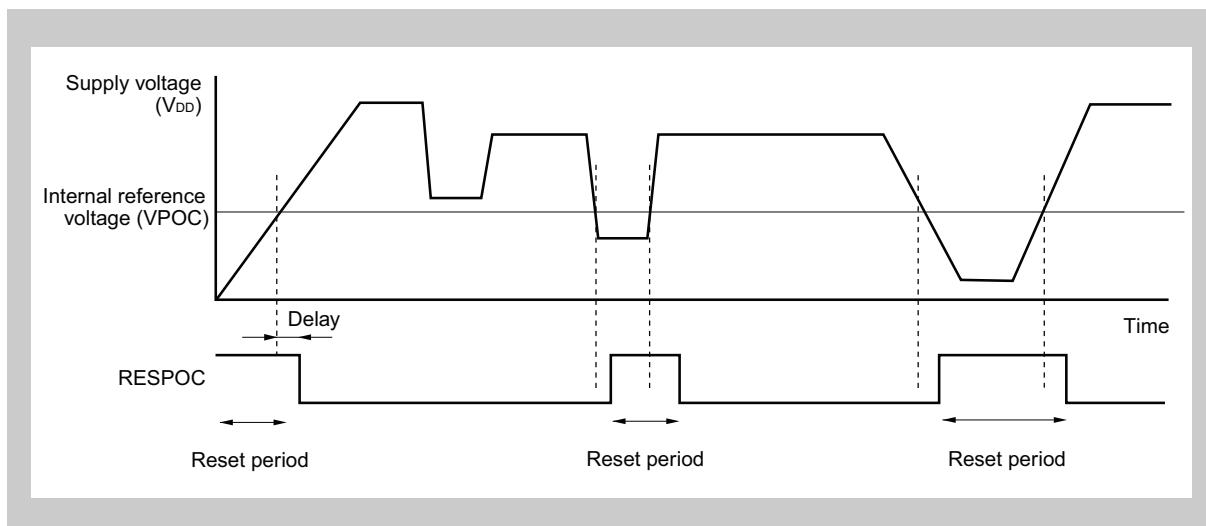

Figure 26-2 Reset generation by Power-On-Clear circuit
*Figure 26-2 on page 951* shows the generation of RESPOC by the Power-On-Clear circuit.